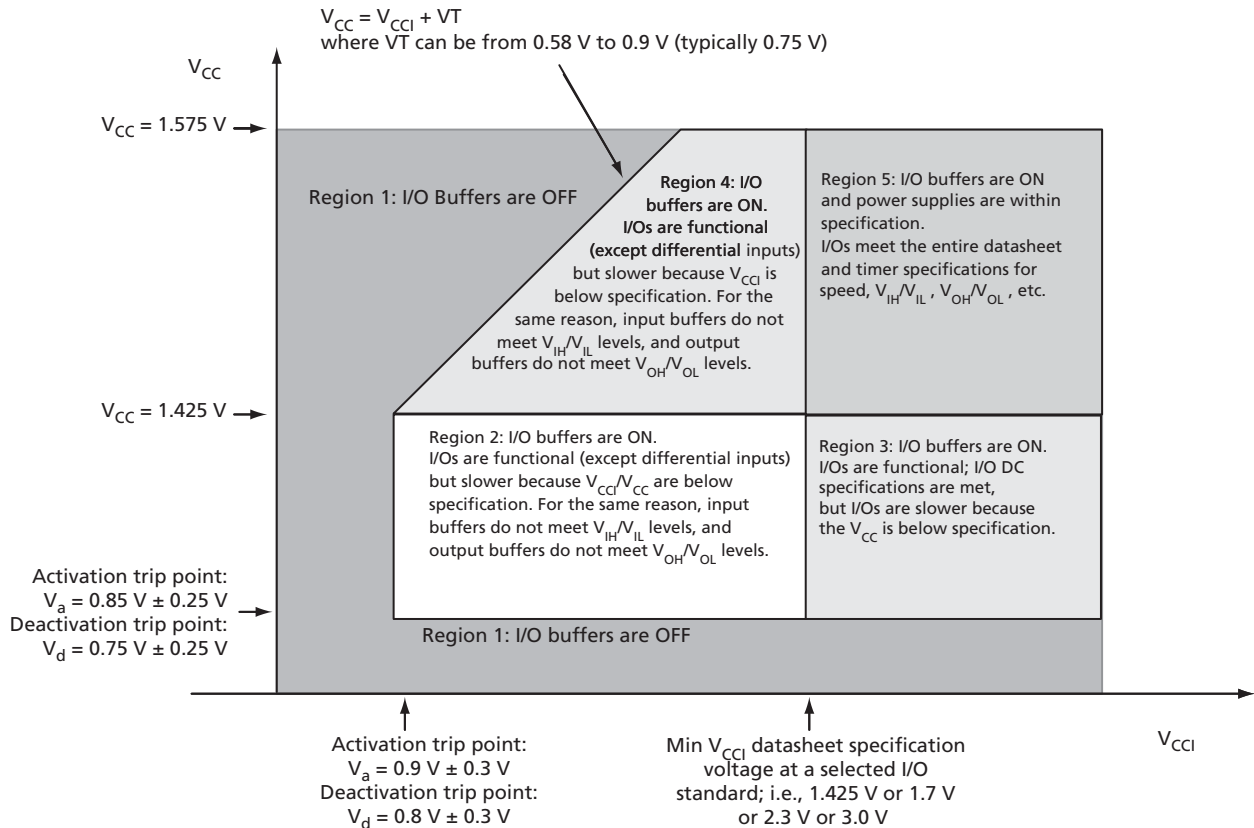
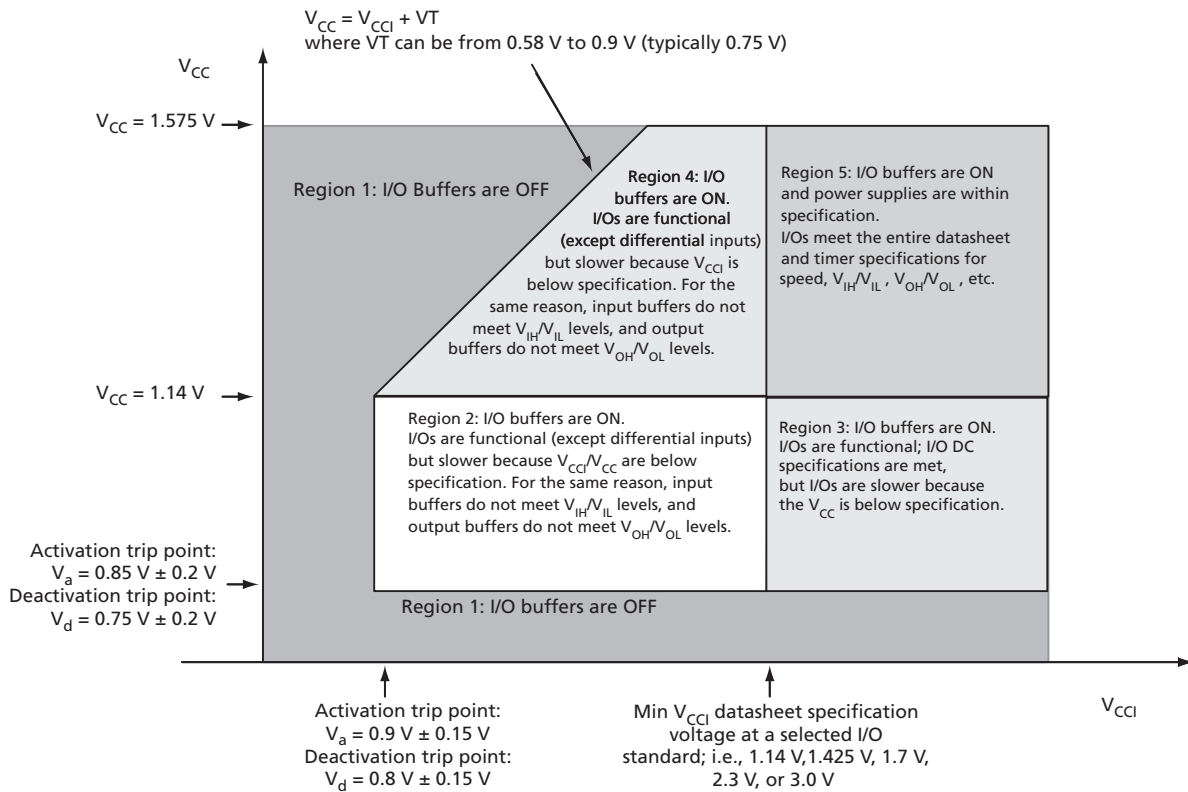

Figure 2-1 • V5 Devices – I/O State as a Function of  $V_{CCI}$  and  $V_{CC}$  Voltage Levels
Figure 2-2 • V2 Devices – I/O State as a Function of  $V_{CCI}$  and  $V_{CC}$  Voltage Levels
Sophisticated power-up management circuitry is designed into every IGLOO device. These circuits ensure easy transition from the powered-off state to the powered-up state of the device. The many different supplies can power up in any sequence with minimized current spikes or surges. In addition, the I/O will be in a known state through the power-up sequence. The basic principle is shown in Figure 2-1 on page 2-4 and Figure 2-2 on page 2-5.
1.  $V_{CC}$  and  $V_{CCI}$  are above the minimum specified trip points (Figure 2-1 on page 2-4 and Figure 2-2 on page 2-5).
Actel recommends using monotonic power supplies or voltage regulators to ensure proper power-up behavior. Power ramp-up should be monotonic at least until  $V_{CC}$  and  $V_{CCPLX}$  exceed brownout activation levels (see Figure 2-1 and Figure 2-2 on page 2-5 for more details).